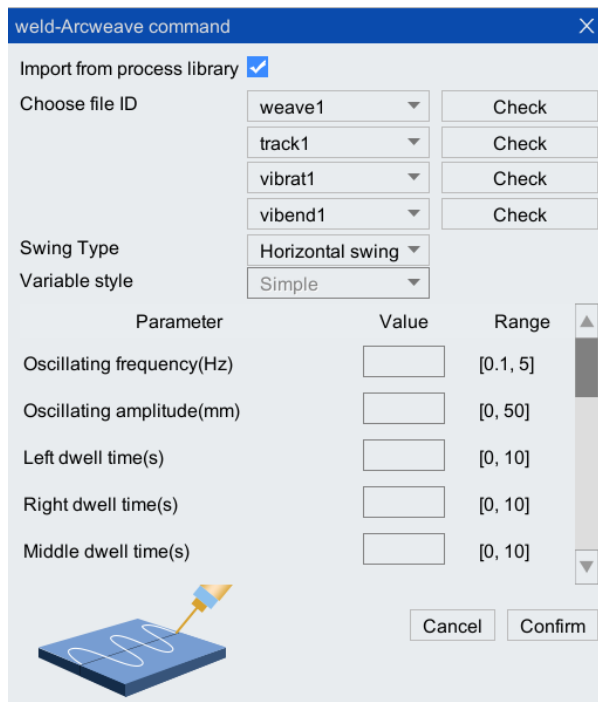

Fig. 5-4 Import parameters of weave instruction from process database file
Step 1. On the program editor interface, click "Insert Cmd"->"Package"->"weld" > "Arcweave command" to pop up the interface, as shown in Fig. 5-4.